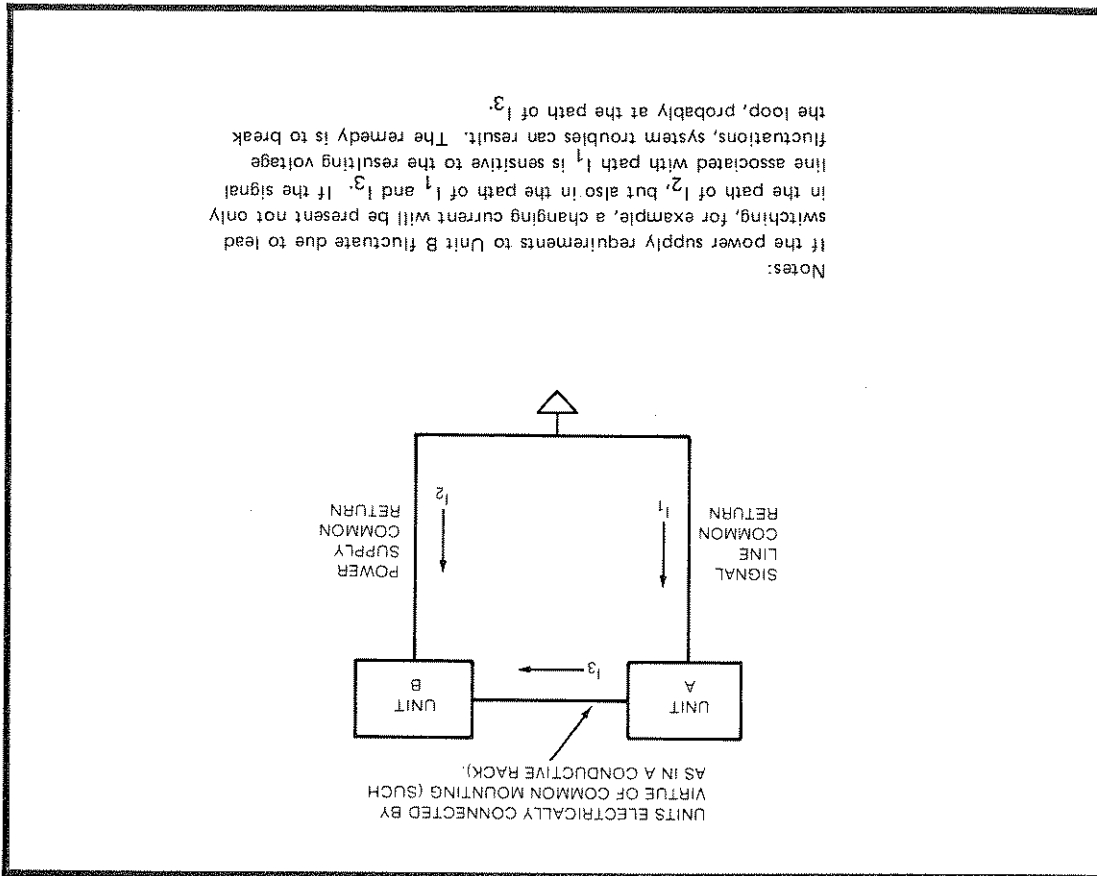

Figure 5-2. Grounding to Avoid Ground Loops
b. The system electronics can become very sensitive to external noise (such as power line switching transients) due to undesirable currents flowing through ground wiring. These currents cause a voltage potential other than zero volts to exist at points in the grounding system. (See Figure 5-2).